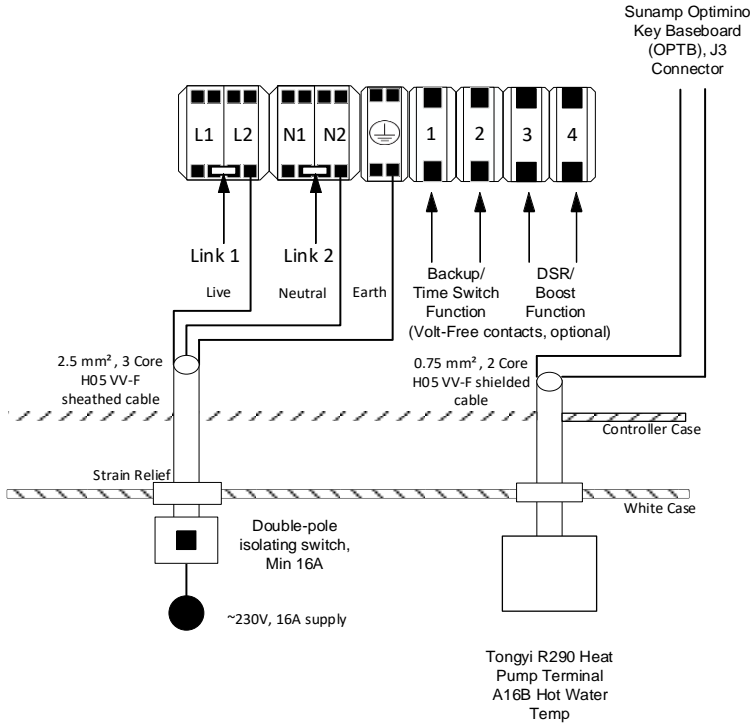

Figure TI.1 - Thermino xPlus with T101 Optimino key
- Thermino xPlus with the "TI01" & "TI02" Optimino keys (D0084 – Section 6.4.2 for wiring instructions & Figures TI.1 & TI.2 below)
appliance case cabling grommets and then into the control box housing through the hole available. Secure the cables in terminals J3 on the Optimino Board J3; please see Figures TI.1 & TI.2 below for reference.